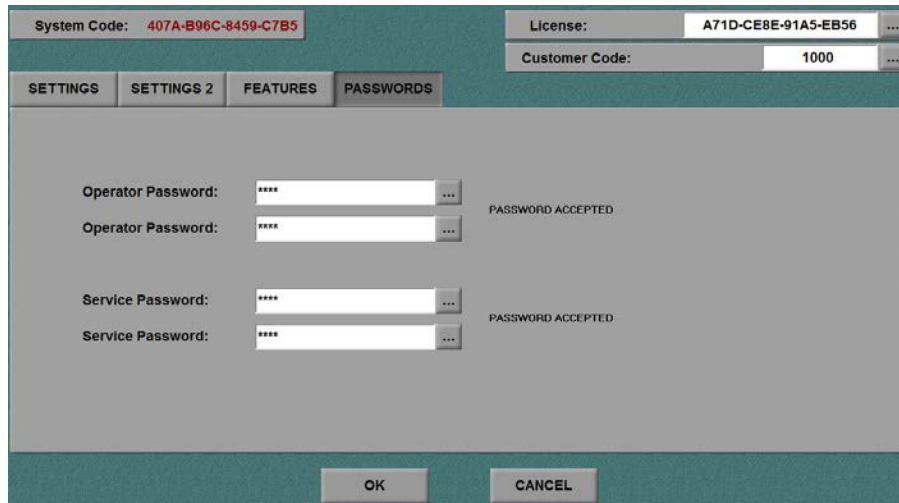

Figure 3-36: Touchscreen Setup Window, Passwords Tab
1. From the touchscreen setup window, select **PASSWORDS**. Refer to Figure 3-36.